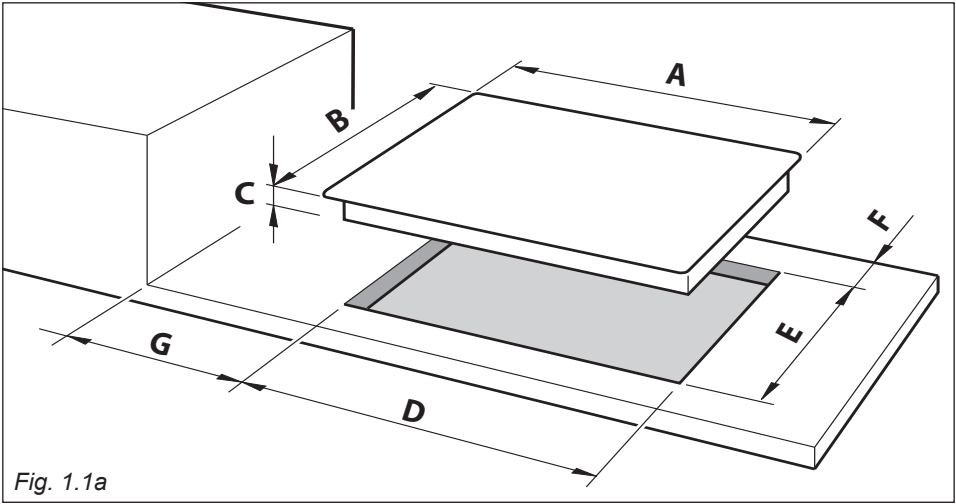

Fig. 1.1a
In order to install the cooker top into the kitchen fixture, a hole with the dimensions shown in fig. 1.1a has to be made, bearing in mind the following:
- The cooker top must be kept no less than 200 mm away from any side wall (from side edge of cutout - figs. 1.1a, 1.1b).
- The hob must be installed at least 60 mm from the wall (from rear edge of cutout - fig. 1.1a).
- Cut the unit according to the dimensions in fig. 1.1a.